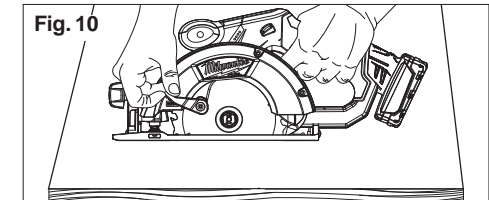

Fig. 10
3. When the shoe rests flat against workpiece, advance the saw to the far corner (Fig. 10). Release the trigger and allow the blade to come to a complete stop before removing it from workpiece. Repeat the above steps for each side of the opening. Use a Sawzall® reciprocating saw, jig saw or small hand saw to finish the corners if they are not completely cut through.